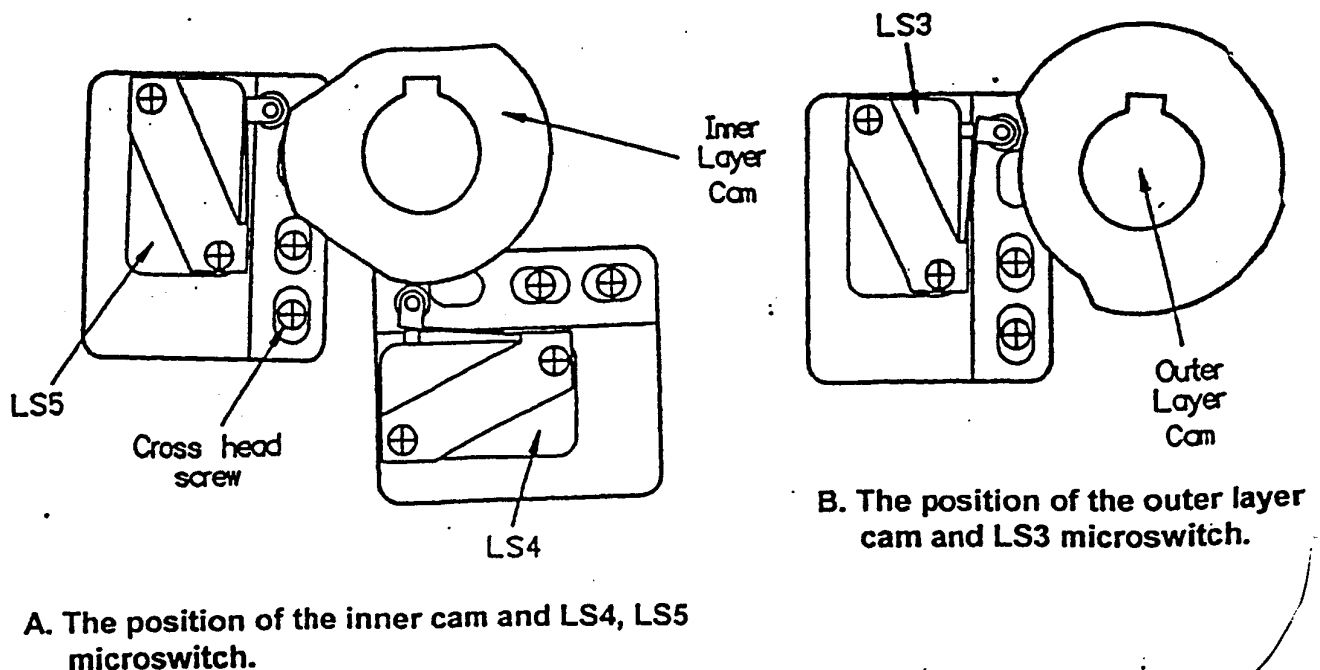

FIGURE13. CAM SWITCH ADJUSTMENT DETAILS
LS5: This switch is at inside of the switch of LS3 (Refer to page 13, figure 13). It is used to control the timer and is a switch of permanent OFF at neutral position.
When the machine is in neutral position, the switch cam must depress the microswitch autuator(LS5), while LS3 and LS4 can not be depressed. (refer to Fig.13) The switch cam has double layers which divided into inner layer and out layer. The inner layer controls LS5 & LS4 and the outer layer controls LS3. To adjust the clearance, proceed as follows:
3. Adjust LS4 as Figure 13. (A) shown.
4. Adjust LS3 as Figure 13. (B) shown.
Remedy: The clearance of LS5 & switch cam need to be adjusted. or renew LS5 due to damage. (Refer to 13, Fig.13)